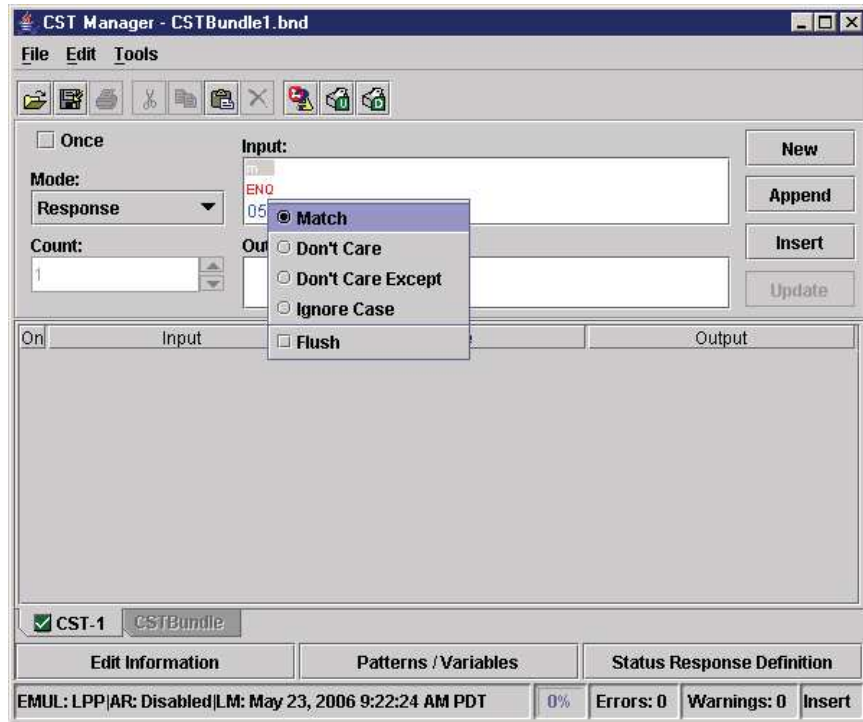

Figure 174 Response Mode Attributes
15. Right-click your input string. A list of possible attributes displays. See Figure 174.